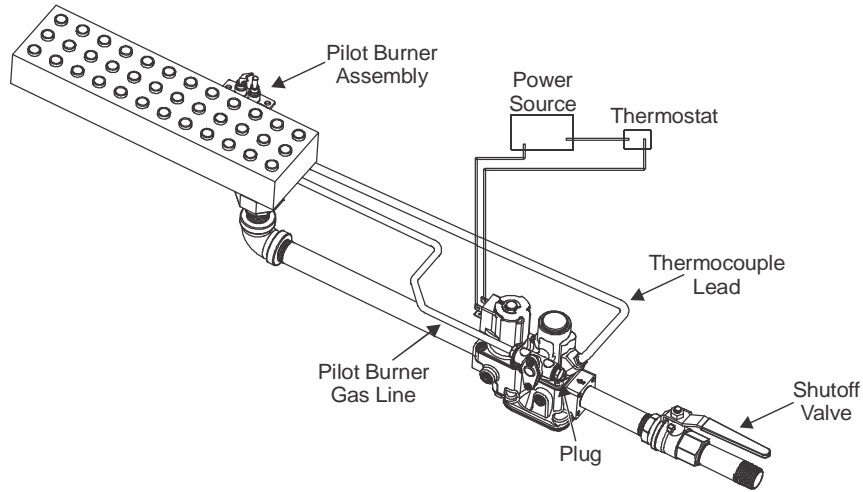

Figure 4: Typical Installation for Internal Pilot Gas Flow
- Installer must be a trained, experienced, flame safeguard control technician. Threads of the pipe and nipples must be smooth and free of tears and burrs. A sediment trap should also be installed in accordance with the National Fuel Gas Code NFPA 54 (see Figure 4). Mount the valve to the pipework, use a quality rated pipe tape, UL listed seal material rated for gasoline, propane, and other gases. If not available, a quality grade pipe dope, a light amount on the male threads, starting two threads away from the first engaging thread. If pipe dope lodges on the valve seat, it will prevent proper closure. Remove excess compound after mounting the valve to the pipework.
On internal pilot gas valve models, plumb the pilot burner fitting to either of the pilot gas ports on the valve. Plug the unused pilot gas port on the gas valve.(see Figures 4 and 5).